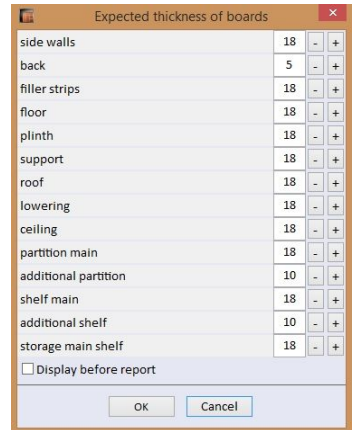

Fig. 43 - Defining the desired thickness of the boards
- **'Expected thickness of boards'** - dimensions, which determine what should be the thickness of the given panel. For example, if you change the thickness of the side panels here, during the later edition of the side panel in the design, the first choice will be the panels with the thickness specified here (Fig. 43). If you select **'Do not display this window again'** in both of these windows, they will not be showed when running a report (report generation function, i.e. list of wardrobe components and their prices, available in the last tab of the **'Summary'** sidebar).